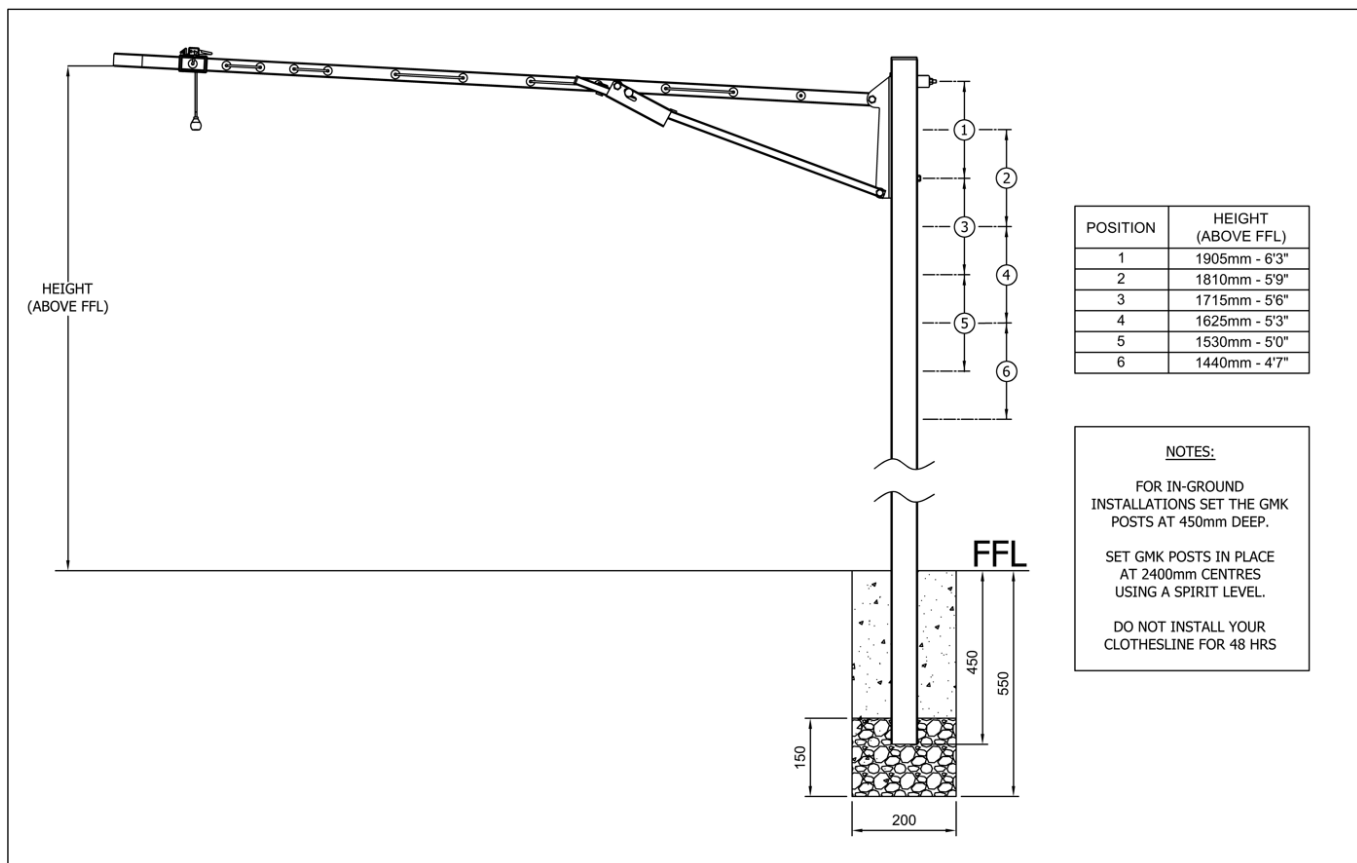

Fig. 8 GMK in-ground installation.
3. GMK has multiple height settings. Pick the one that best suits the end user, (50mm above head height is recommended). See Figs 8 and 9 for recommended installation heights.
- Install the GMK as per the below image (Fig 8) at 2,400mm centres.